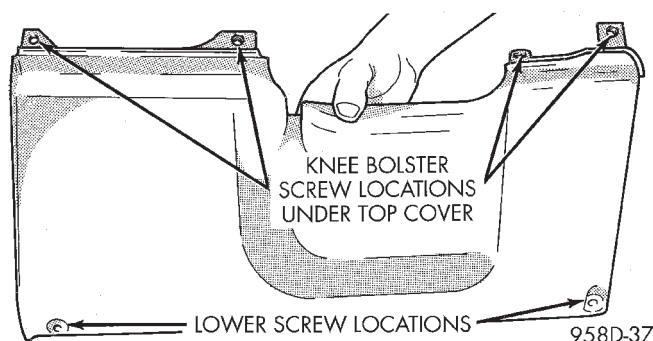

Fig. 7 Knee Bolster Attaching Screw Locations
(7) Remove top cover from instrument panel to gain access to knee bolster attaching screws.
(8) Remove screws attaching the knee bolster to the instrument panel (Fig. 7).
(18) Install air bag module into center of steering wheel. Align air bag module locating pins with the mating hole and slot in the steering wheel. Install **only the 2 original or correct replacement** air bag module attaching bolts. Torque the 2 air bag module attaching bolts to 10 N·m (90 in. lbs.).
(19) Install key lock cylinder into lock housing. Key lock cylinder is installed by positioning key cylinder in the run position so retaining tab can be depressed and the pushing key cylinder into lock housing until retaining tab locks into key lock cylinder.
(20) Install lower instrument panel knee bolster onto the lower instrument panel. Install and securely tighten the knee bolster to instrument panel attaching screws (Fig. 7).
(21) Install the instrument panel top cover.